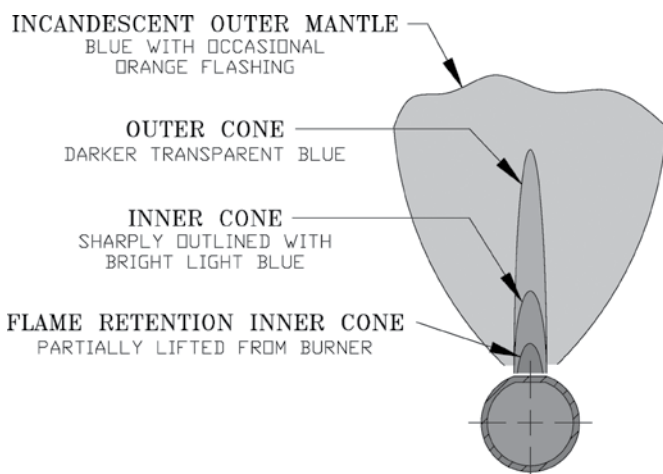

Figure 9-6: Main Burner Flame
J. Check Main Burner Flame (see Figure 9-6)